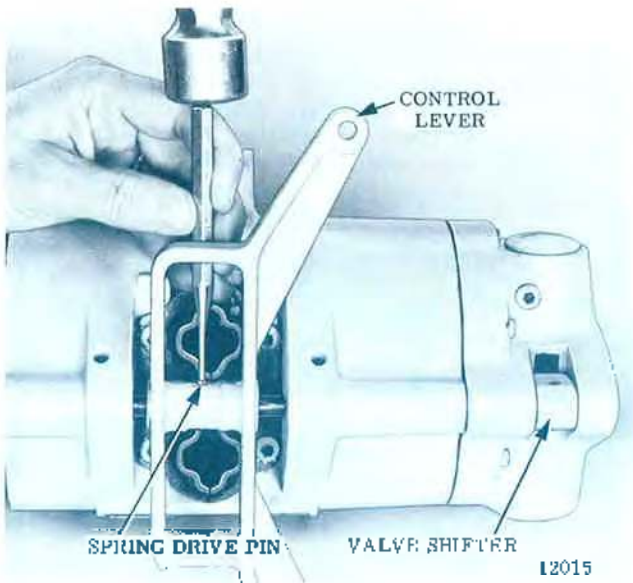
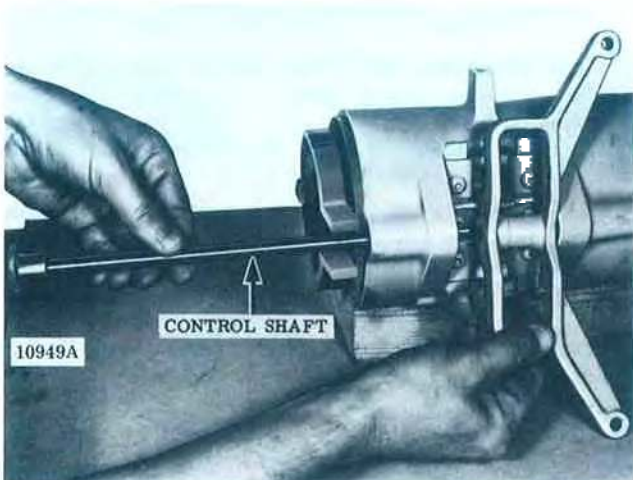

Figure 7-2. Driving Spring Pin from Control Lever and Shaft.
Figure 7-3. Removing Control Shaft.
(1) On pendant throttle control models, for convenience, disconnect control hoses from air cylinders, open strain cable "S" hook at eye bolt on throttle housing and remove pendant throttle control assembly from hoist. Refer to paragraph 7-6 for disassembly and reassembly of pendant throttle control.
(2) Remove two screws securing brake housing cover to frame and lift off cover.
(3) To remove control lever and shaft, drive spring pins from control lever (Figure 7-2) and valve shifter at end of shaft using a drift punch. Lightly lap valve shifter end of shaft and withdraw shaft by pulling on brake cam end (Figure 7-3). As shaft is withdrawn, valve shifter and control lever will fall free.